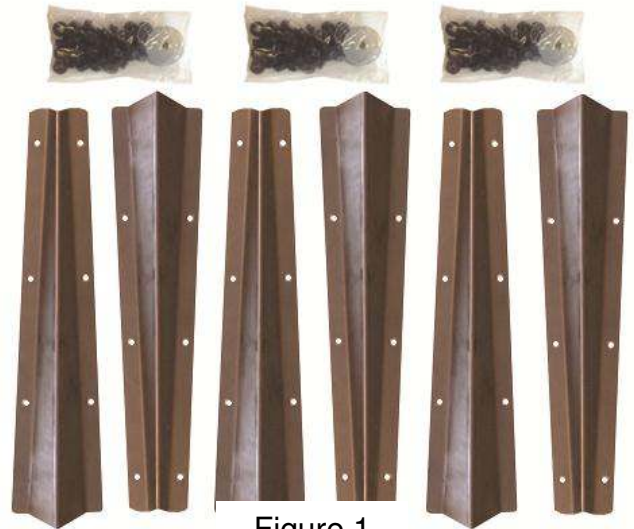

Figure 1
- B. Compare the parts with hardware kit B9900WOA as shown in Figure 1.